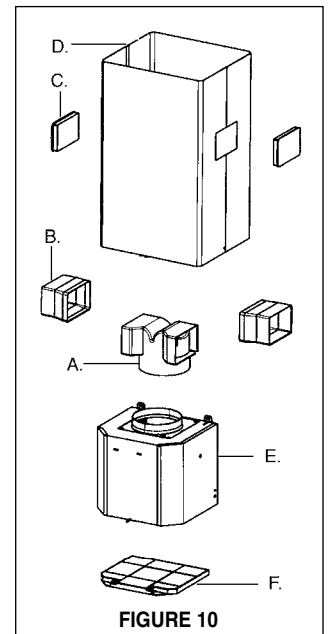
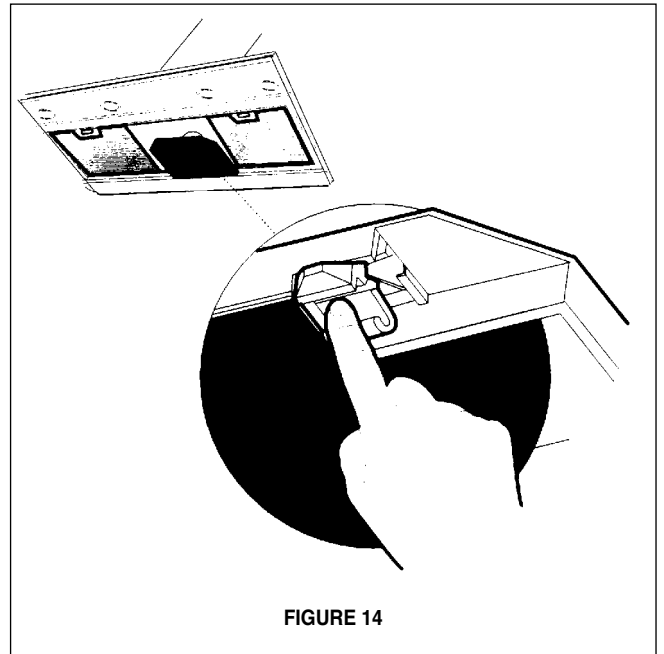

FIGURE 10
FIGURE 14
Ductless installations require a **Ductless Conversion Kit** whose components are pictured in FIGURE 10. Do not use the DAMPER (M in FIGURE 1) for ductless installations. The LOWER CHIMNEY COVER (B in FIGURE 1) should be discarded and replaced by the new one with holes from the **Ductless Conversion Kit** (D in FIGURE 10).
As indicated in FIGURE 10, place the DUCTLESS DIVERTER (A) over the exhaust opening of the EASY CUBE (E). Fit the DUCTLESS DIVERTER EXTENSIONS HORIZONTAL (B) into the DIVERTER (A).
For ductless installations, line up the DUCTLESS DIVERTER EXTENSIONS HORIZONTAL (B in FIGURE 10) with the holes in the LOWER CHIMNEY COVER (D in FIGURE 10) and snap in the VENT GRIDS (C in FIGURE 10).
For ductless installations, install the CHARCOAL FILTER (F in FIGURE 10) behind the center grease filter opening by inserting and locking into place. (See FIGURE 14)